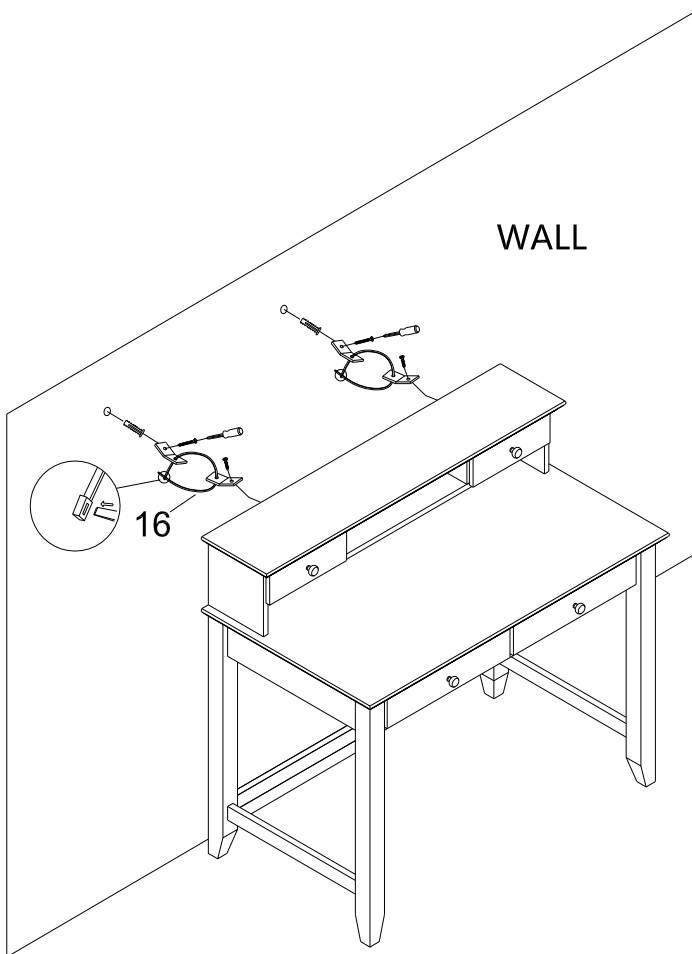

Figure 12
Attach Safety Straps (16) to Upper Rear Panel (F) using screws (included) as shown in Figure 12.